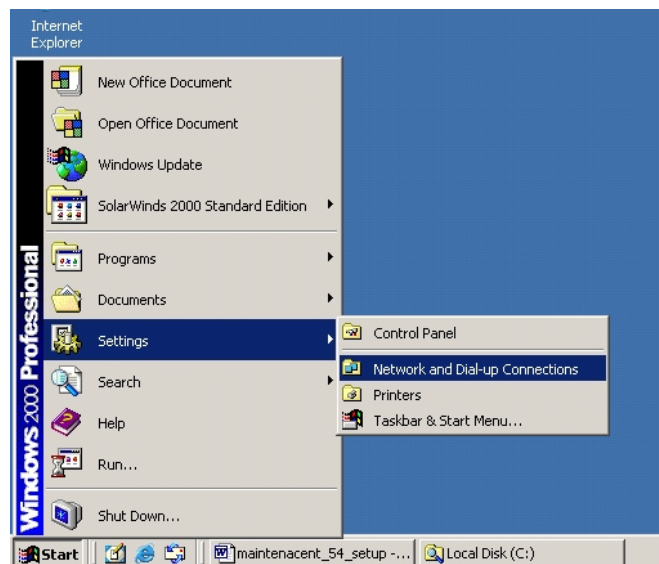

Figure A-1.1 Windows 2000 Professional Desktop
1. From the desktop click **Start, Settings, Network and Dial-up-Connections** (see Figure A-1.1).